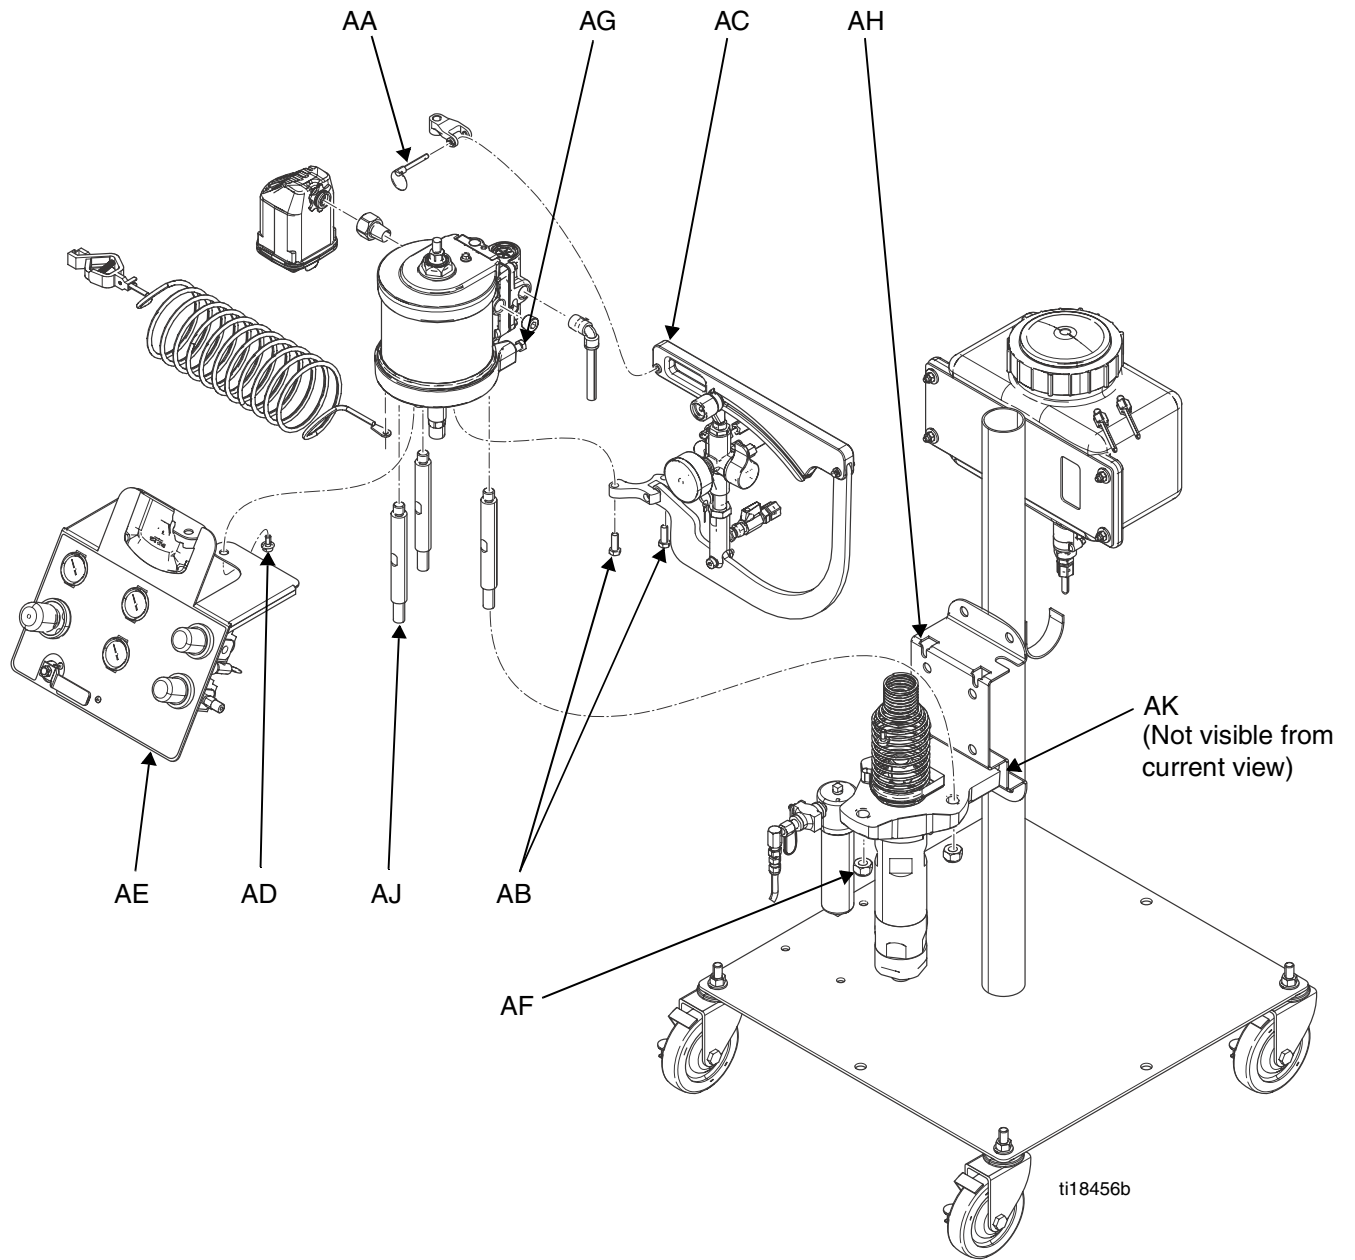

FIG. 33
See manual 3A2315 for air motor service and parts information. See FIG. 33 on page 43.
See FIG. 33 on page 43.
3. Disconnect main air line from air panel (AE).
4. Disconnect items from the air motor, see FIG. 33 on page 43:
- b. Remove top pin (AA) connecting upper catalyst pump arm to air motor, then remove bolts (AB) connecting lower catalyst pump arm to air motor then remove catalyst pump and control arms assembly (AC).
- c. Remove two bolts (AD) securing air control panel to air motor then remove air control panel (AE).
7. Use a socket to loosen the two screws (AG) connecting the air motor to the mounting bracket (AH).
8. Use a socket to remove the two screws (AK) securing the displacement pump to the mounting bracket.